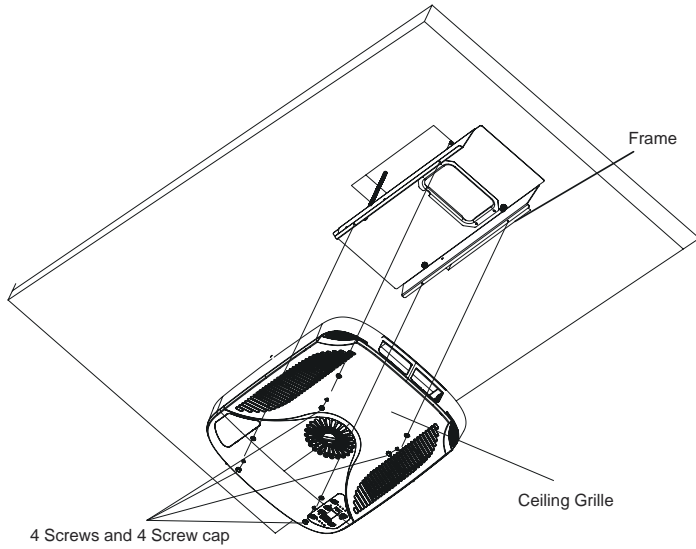

Figure 10
3. Secure the ceiling grille to the ceiling assembly frame with 4 screws. (see Figure 10).
2. Secure the ceiling grille to the ceiling assembly wind-path with 4 screws. (see Figure 10).